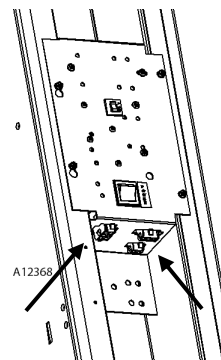

Fig 2
- Unplug the door harness and glass heater harness (if applicable) from the power panel – Fig. 2